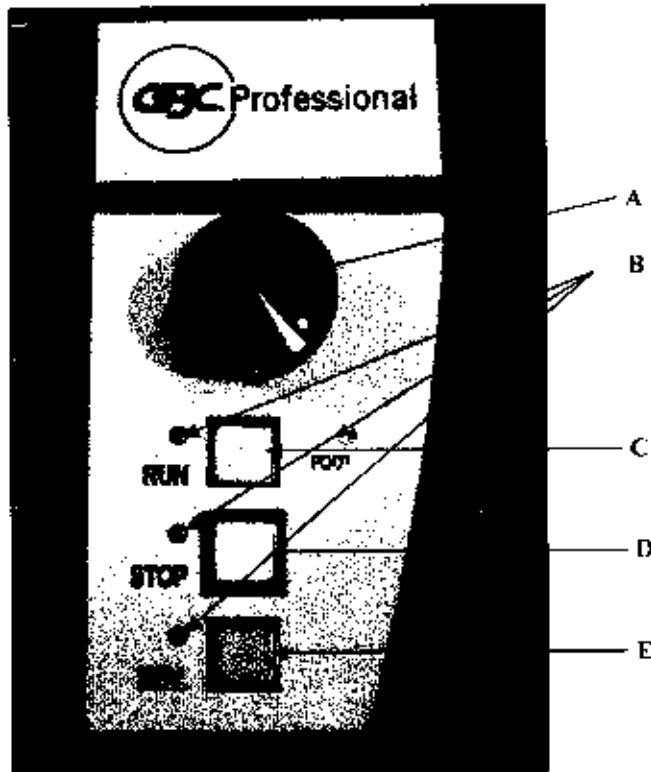

Fig. 6-1. Control Panel
- A. **SPEED ADJUSTMENT** (Figure 6-1)